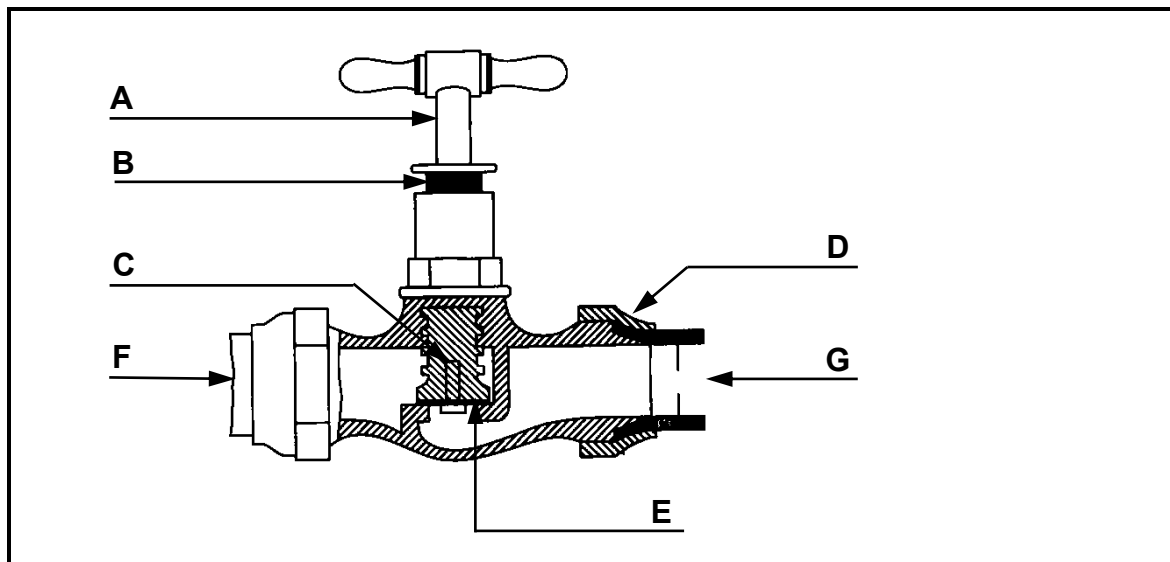

FIGURE 4.1
4.1 Answer the following questions regarding the tap in FIGURE 4.1.